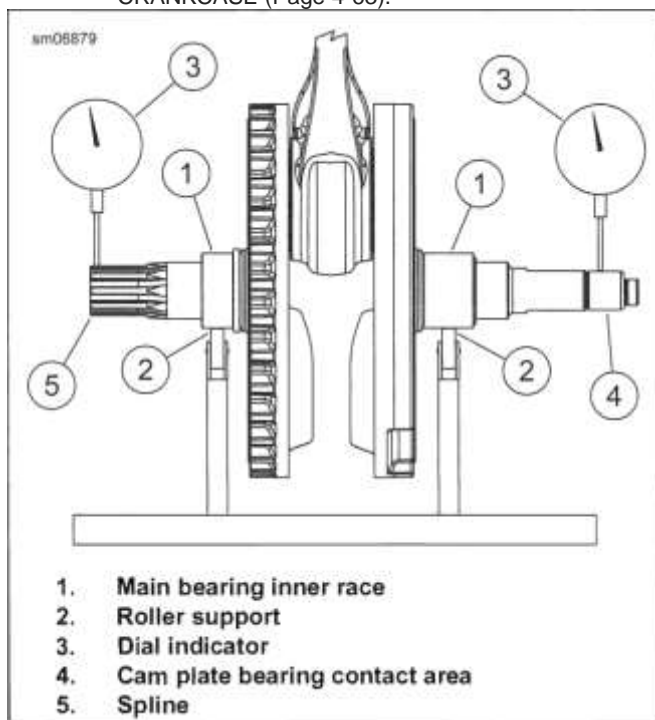

Figure 4-9. Checking Crankshaft Runout
4. See Figure 4-9. Adjust dial indicator position to measure runout at cam plate bearing contact area (4).
4. See Figure 4-9. Adjust dial indicator position to measure "high" part of splines (5) on shaft.
1. See Figure 4-9. Mount flywheel assembly in truing stand with bearing races (1) on roller supports (2).
2. Secure dial indicator (3) and mount near each end of flywheel assembly.
3. Set up each indicator (3) to measure the machined surface (4) on one end and splines (5) on the other.